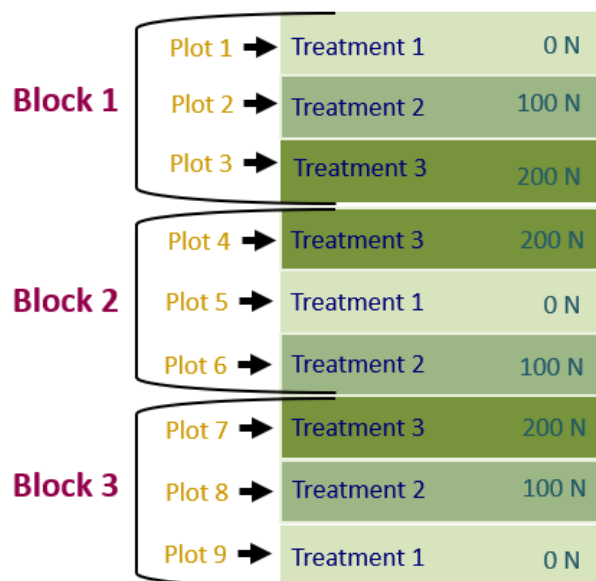

Figure 1. Plot design with labeled research terminology.
- Routine soil analysis- Sample at the block scale before any management is completed on the field. Figure 1 highlights which areas would be included in the block sampling pattern. Representative soil cores would be pulled from each block (outlined in purple dashes), for a total of four composite samples for the field.